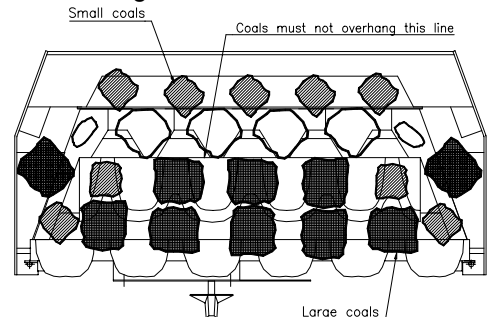

Fig. 6 Placing the loose coals
6. Remove the coals from the bag; note that there are 2 sizes supplied with the burner. Place them on the ceramic blocks in accordance with Fig. 6.